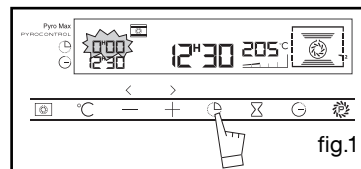
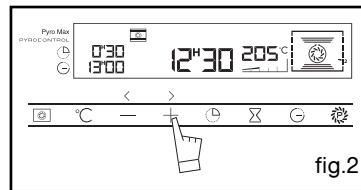

fig.1
fig.2
Press the  button (fig.1) then select your cooking programme using + or - (fig.2).
The display flashes 0:00 to indicate that you can now adjust the setting (fig.1).
- Press the + or - buttons to set the desired time. Example: 30 mins cooking time (fig.2).
The display flashes to indicate that you can now adjust the setting (fig.1).
Example: end of cooking at 16:00 (fig.2).